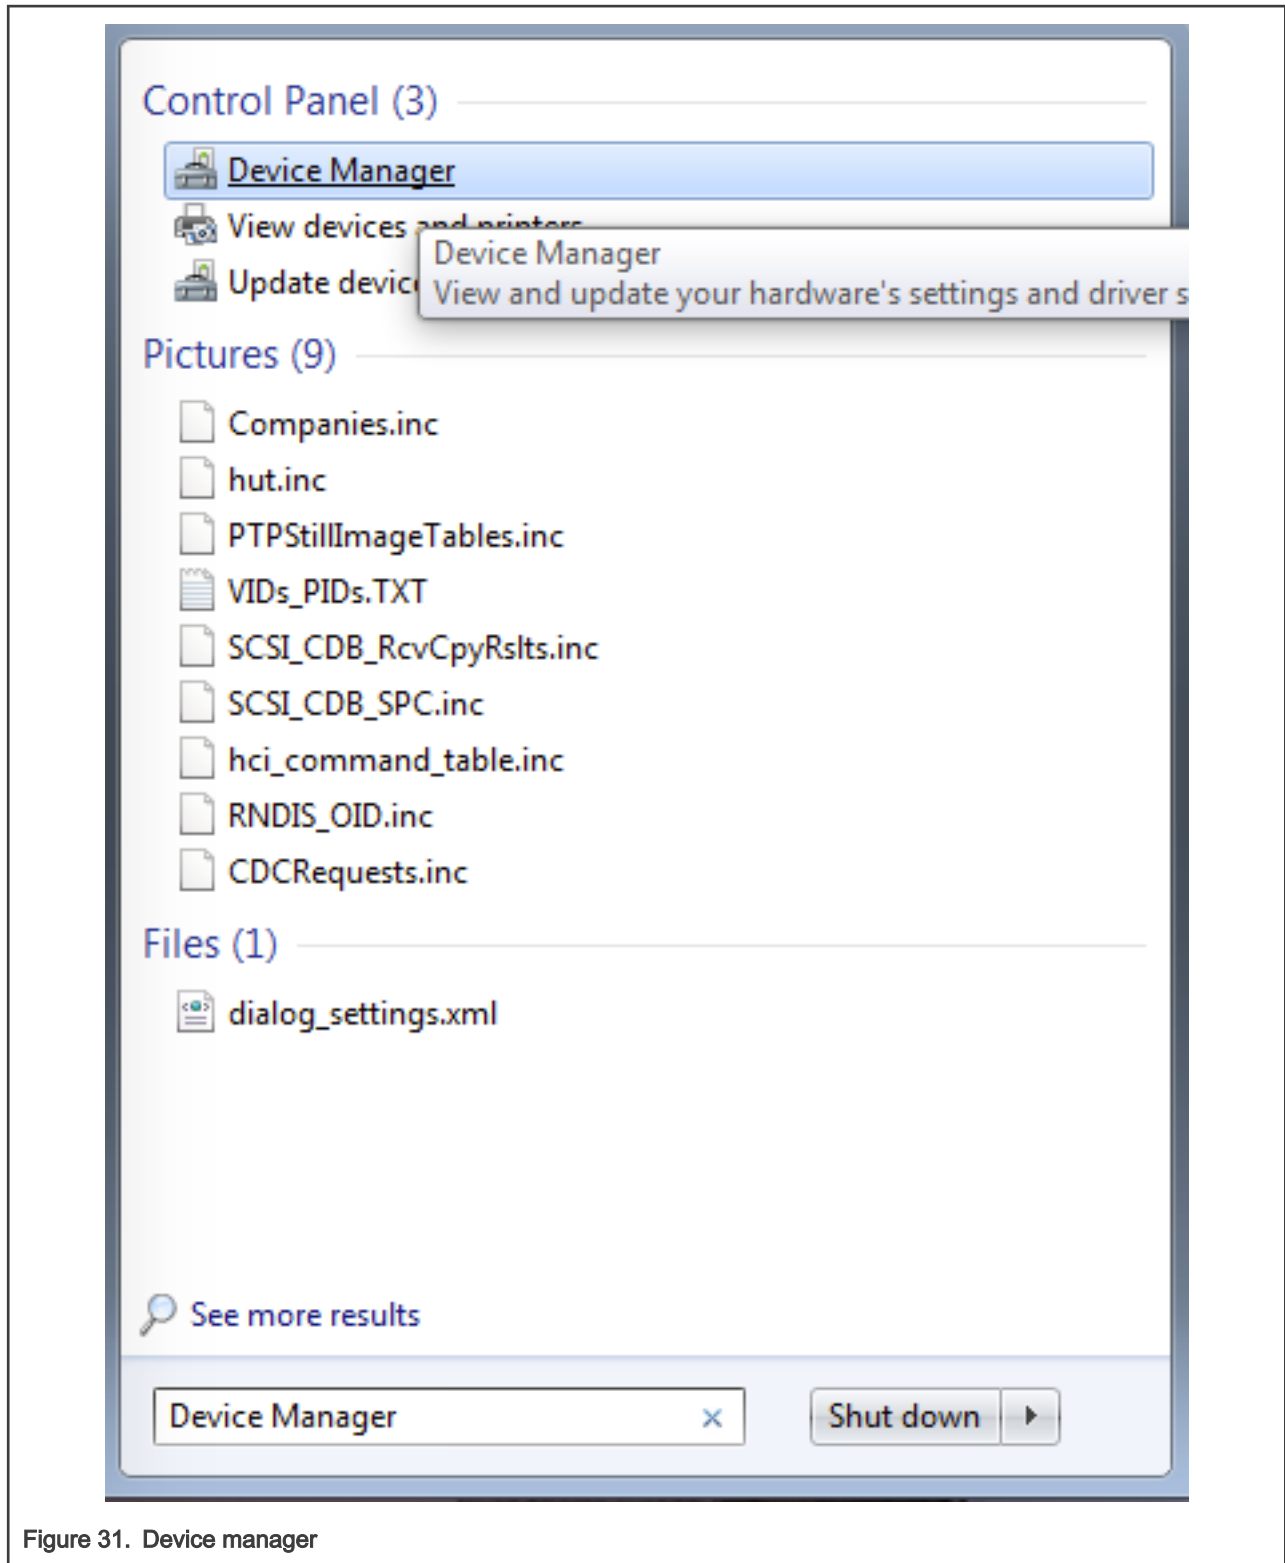

Figure 31. Device manager
1. To determine the COM port, open the Windows operating system Device Manager. This can be achieved by going to the Windows operating system Start menu and typing **Device Manager** in the search bar, as shown in Figure 31.